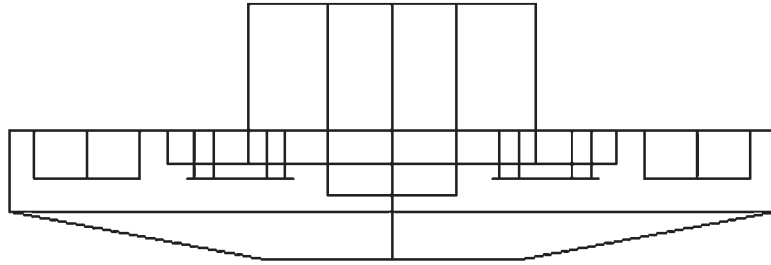

FIGURE 27.19
Step 3. You can pick *yes* or *no*. In this example, we keep the hidden lines. Press Enter. The flattened 2D model appears, as seen in Figure 27.19.